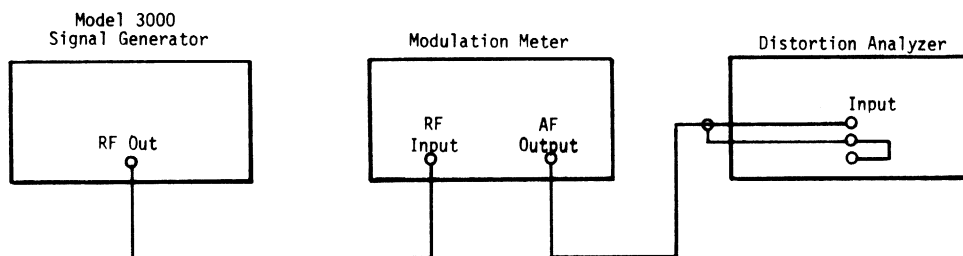

Figure 4-5. AM Distortion Setup
2. Connect the equipment as shown in Figure 4-5.